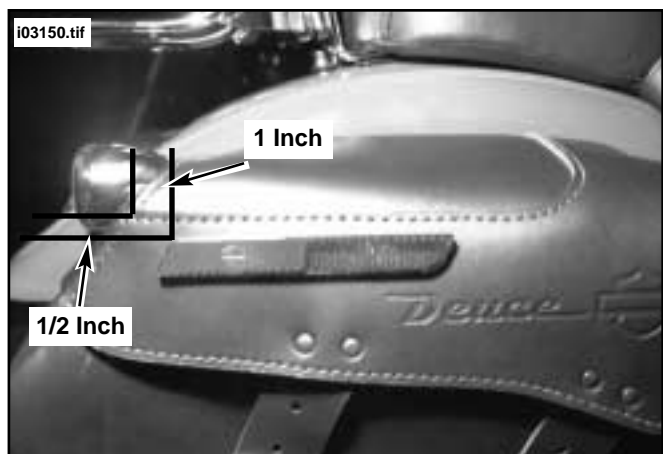

Figure 25. Install Reflectors
1. See Figure 25. Locate area at corner section of saddlebag where threads intersect. Reflector should be installed approximately 1" towards front of bike from corner and approximately 1/2" down from corner.